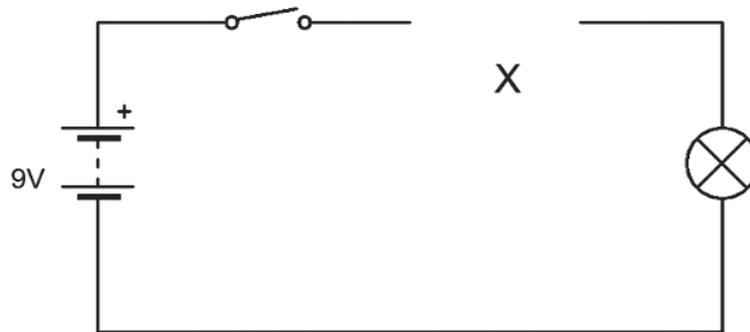

Fig. 1
1. Fig. 1 shows an incomplete circuit diagram. The circuit is to be completed by adding a semiconductor diode at position X.